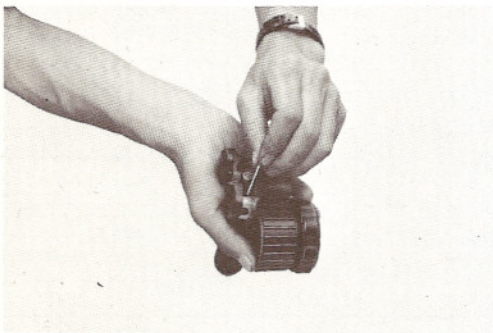

Fig. 4-3-5
- 2) Remove the boot stopper while taking care not to damage the boot and then remove the boot as shown in Fig. 4-3-5.